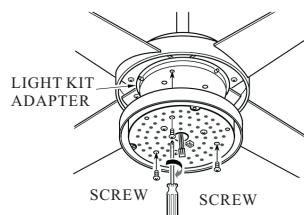

FIG.15
3. Lift up the light kit and pull the wire through the hole of light kit. Then, tighten the 3 screws previously removed in step 1 (see Fig.15)